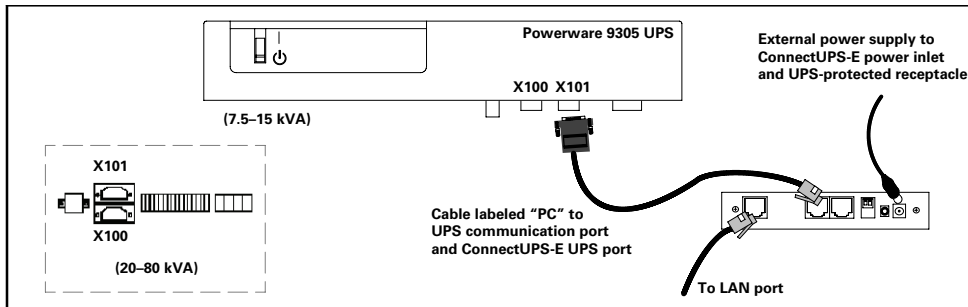

Figure 4. Alternate Installation with a Powerware 9305 UPS
4. **If the X100 port is not available**, use the supplied serial cable (labeled "PC") to connect the UPS port on the ConnectUPS-E to the male, 9-pin, RS-232 port (labeled X101) on the UPS (see Figure 4).